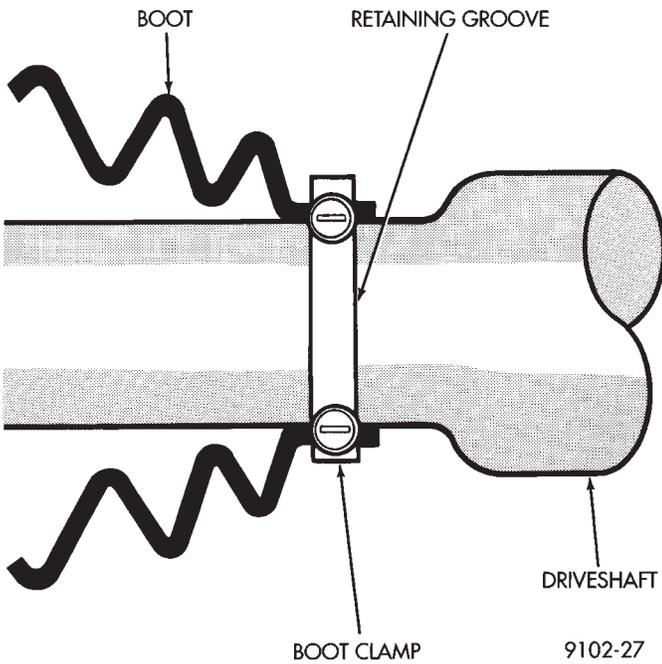

Fig. 1 C/V Joint Boot Positioning G.K.N.
- (1) Slide the small end of the boot over the shaft. Position the boot to the edge of the locating mark or groove, whichever is appropriate (Fig. 1).
- (2) Install the C/V joint. See Inner or Outer C/V Joint Assemble.